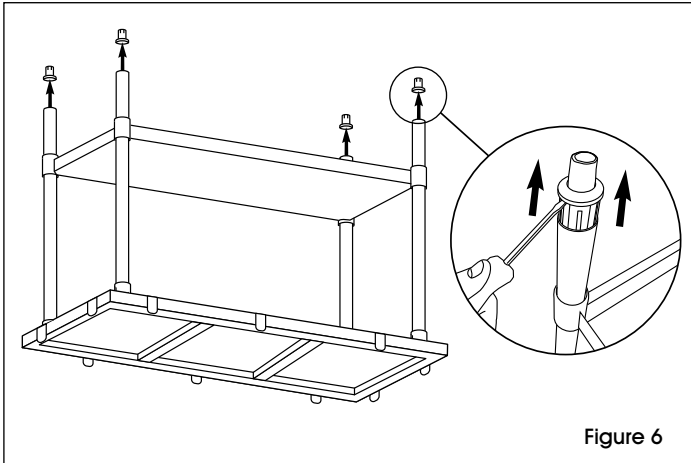

Figure 6
1. Flip the table back over onto a smooth, non-marring surface. Remove adjustable feet from tube legs using a flat head screwdriver. (See Figure 6)